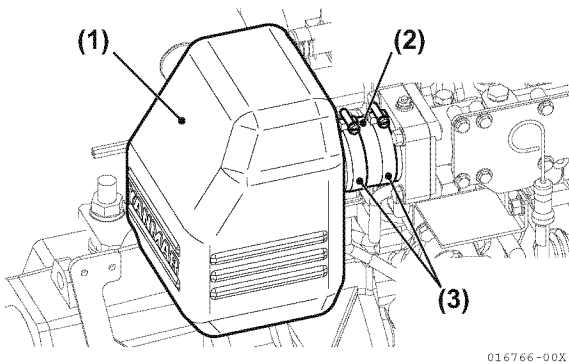

Figure 5-194
65. Secure the silencer to the suction manifold with rubber hose and hose band (**Figure 5-194**).